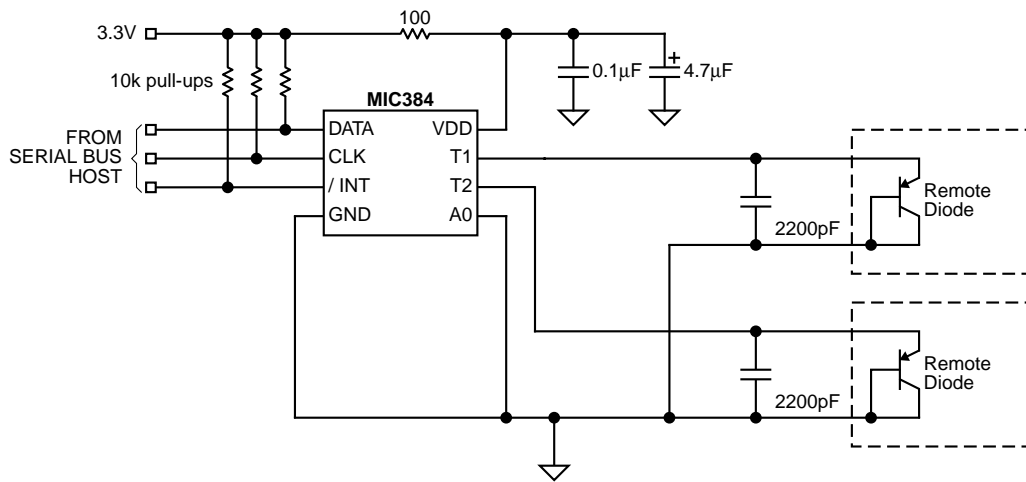

Figure 7. V_{DD} Decoupling for Very Noisy Supplies
7. When the MIC384 is being powered from particularly noisy power supplies, or from supplies which may have sudden high-amplitude spikes appearing on them, it can be helpful to add additional power supply filtering. This should be implemented as a 100 Ω resistor in series with the part's VDD pin, and an additional 4.7 μF , 6.3V electrolytic capacitor from VDD to GND. See Figure 7.